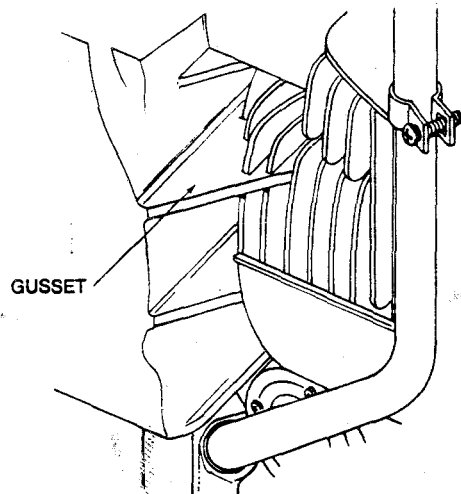

FIGURE 2. SHEET METAL MODIFICATION FOR ENGINE GUSSET
- Engine block gusset (Figure 2)